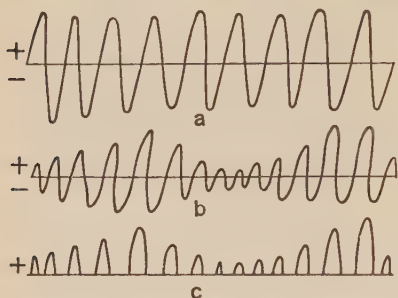

FIGURE 218A. — UNDAMPED OR CONTINUOUS WAVES.
73). The current which they carry must *oscillate* (change its flow back and forth) at a high speed, that is, it must have a *high frequency* (section 289). To produce such waves the sending circuit must include *vacuum tubes* and a *condenser* connected in series with an *inductance*. The waves thus produced are *undamped* (Fig. 218a) and their *oscillations* form one *continuous wave*. The *amplitude* (we may think of